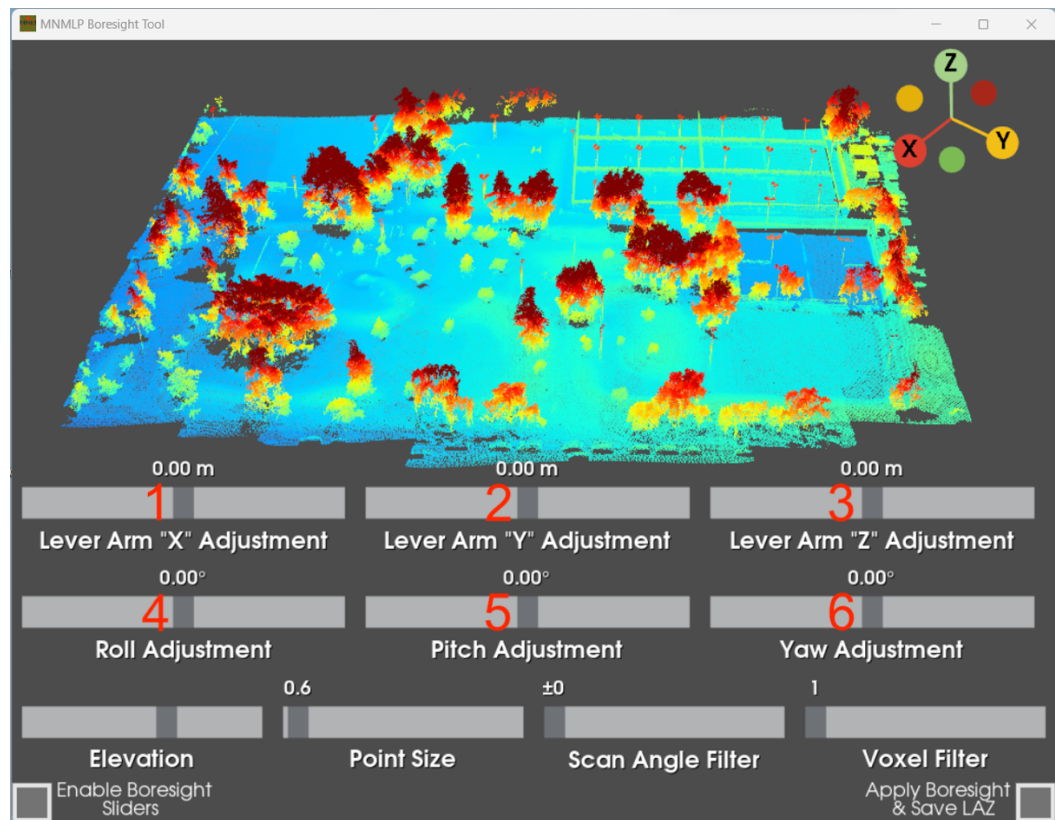

Figure 8: Interactive plotting window after the “Enable Boresight Sliders” button has been toggled. The adjustment sliders are labeled by the red numbers
- The (5) “Enable Boresight Sliders” button will enable the three different lever arm and the three different boresight slider bars. These slider bars can be adjusted and the displayed point cloud will be recalculated/updated in real time. Note that if the real-time adjustments are delayed or are taking too long then the user should either a) Reduce the voxel size during the initial voxelization step or b) Reduce the area that was initially georeferenced. Figure 8 displays the interactive window after the “Enable Boresight Sliders” button has been toggled. The six newly visible slider bars allow the user to adjust the 1) “X” lever arm values, 2) “Y” lever arm values, 3) “Z” lever arm values, 4) Roll boresight misalignment angle, 5) Pitch boresight misalignment angle, and the 6) Yaw boresight misalignment angle